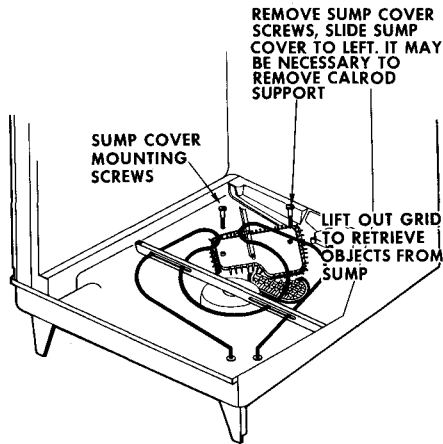

Figure 8 - Remove Sump Cover on Potscrubber III Models
2. Slide the sump cover to the left and reach down into the sump and check for a possible jam. See Figure 8.